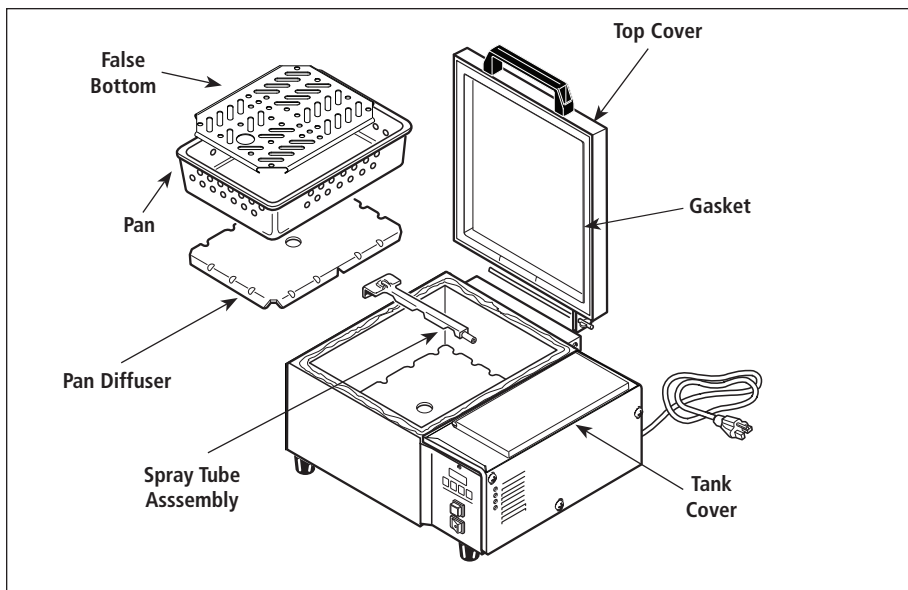

Figure 5. Components
3. Open the top cover and place the product to be steamed onto the False Bottom (Figure 5), then close the cover.
3. Remove the Diffuser, Pan, and False Bottom (Figure 5).
5. Wipe down the Top Cover, Gasket, and the entire exterior of the unit (Figure 5) with a clean, hot, damp cloth (not dripping wet) and wipe dry.
3. Remove the Spray Tube (Figure 5) by lifting the loose end and pulling it out of the generator hole.